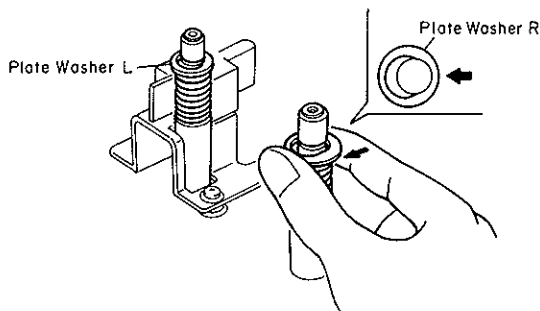

Fig. 2.9.2
Note: When installing the Head Mount Base Ass'y, follow the next steps. Refer to Figs. 2.9.2 and 2.9.3.
- (a) Insert the Plate Washers into the grooves of the shafts by hand. See Fig. 2.9.2.